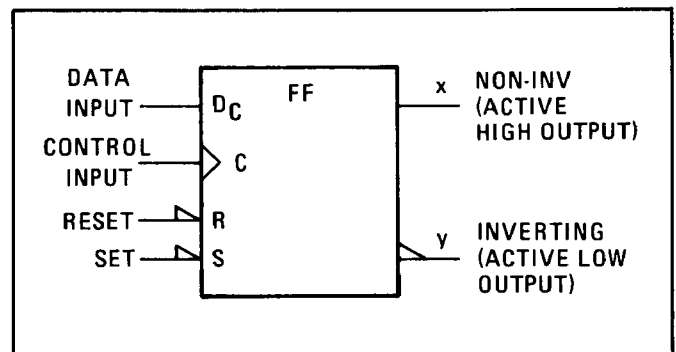

Figure 8-116. D-Type Flip-Flop (Edge-Triggered)
D-type flip-flops are used for temporary storage of one bit of binary data. The  $D_C$  input is stored and transferred to the output at X when the control input (C) undergoes a low-to-high transition. Y is the complement of X (i.e.,  $Y=X$ ). The S and R inputs set (S) and reset (R) the outputs independent of the control input status. Only one of these inputs is normally active at a time. If both are active, the X and Y are either both high or both low, depending on the particular device used. See Figure 8-116.